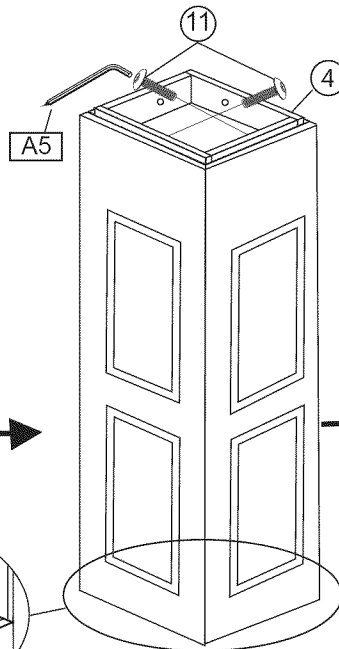

FIG. 1E
- Attach Leg - A (#1) to Bottom Leg Cap (#4) using two bolts (#11). See Fig. 1E. Repeat same for Top Leg Cap (#3).